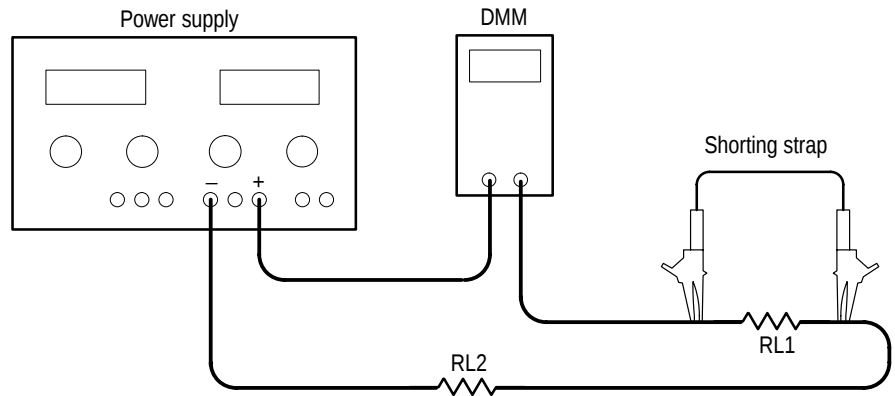

Figure 2: Constant Current Test Setup
8. Connect the digital multimeter and load resistors to the + and – terminals of the power supply MASTER output as shown in Figure 2. See Table 7 for the appropriate load resistor values.
9. Verify that the power supply output current varies less than $0.2\% \pm 3 \text{ mA}$ while shunting load resistor RL1 with the shorting strap. See Figure 2 above.
7. Connect the digital multimeter and load resistors to the + and – terminals of the power supply SLAVE output as shown in Figure 2. See Table 7 for the appropriate load resistor values.
8. Verify that the power supply output current varies less than 0.2% $\pm$ 3 mA while shunting load resistor RL1 with the shorting strap. See Figure 2 above.
7. Connect the digital multimeter and load resistors to the + and – terminals of the power supply MASTER output as shown in Figure 2. See Table 7 for the appropriate load resistor values.
8. Verify that the power supply output current varies less than $0.2\% \pm 5 \text{ mA}$ while shunting load resistor RL1 with the shorting strap. See Figure 2 above.